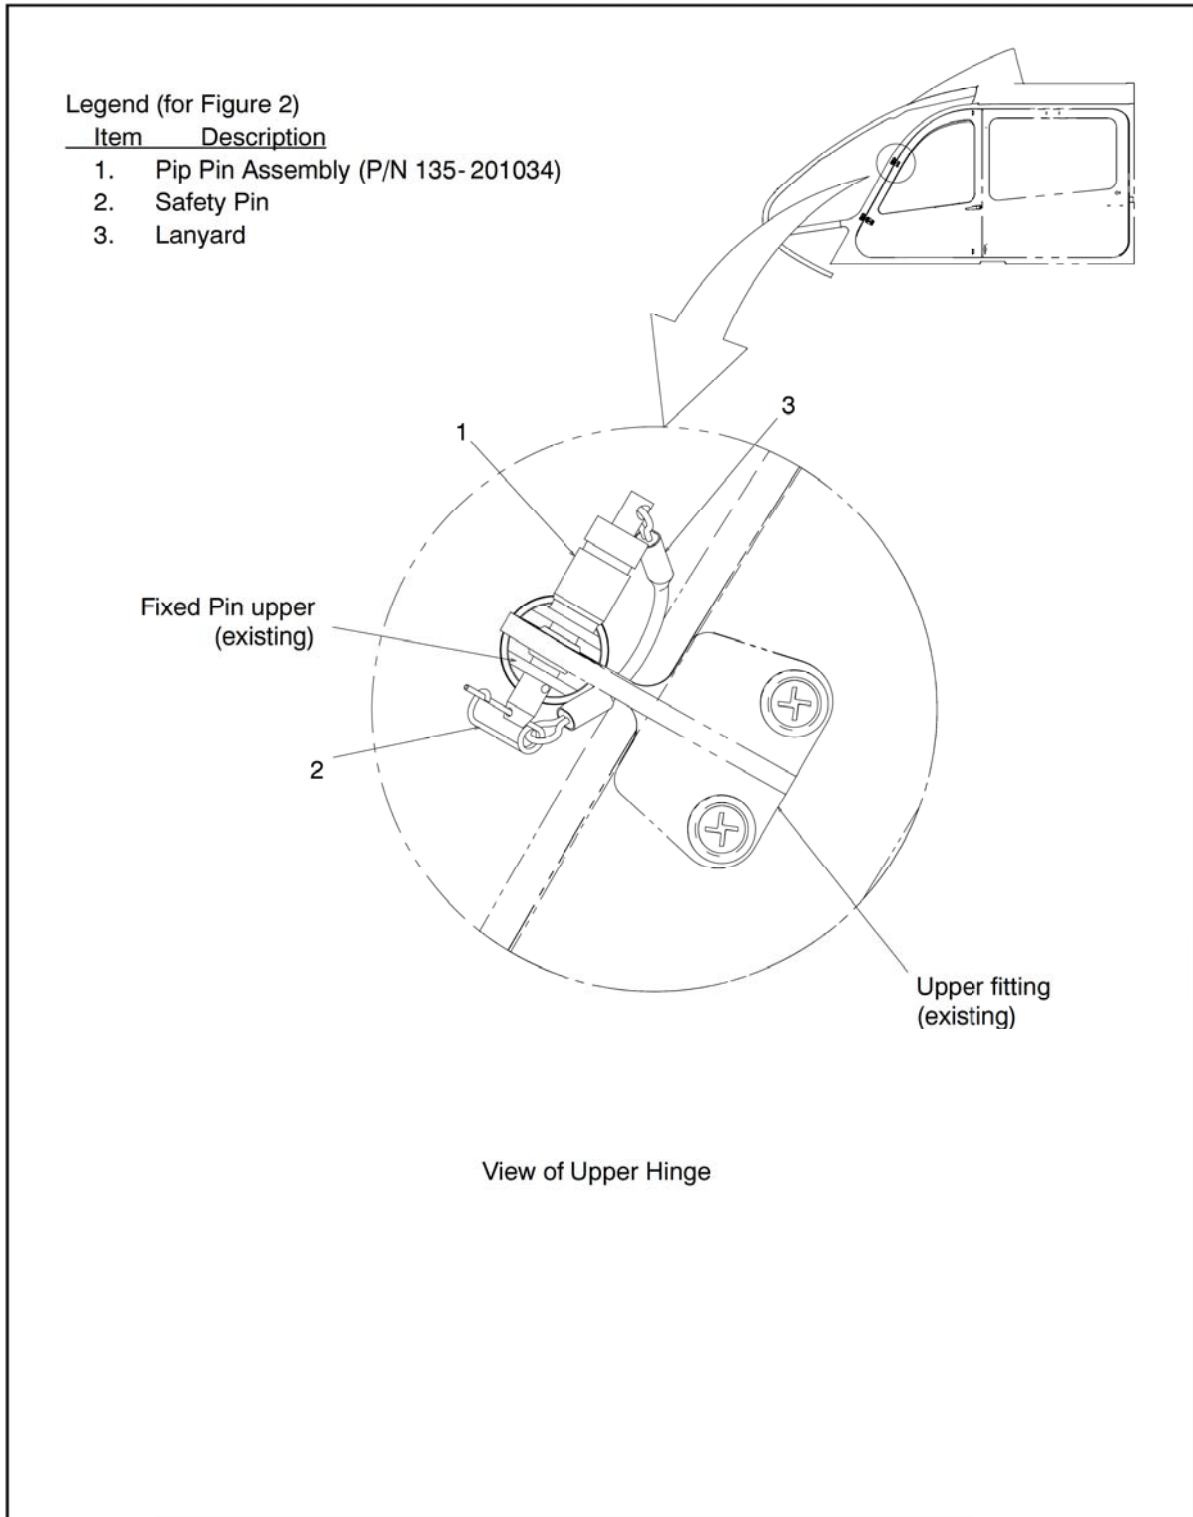

Figure 2 Detail of Upper Hinge
1) UPPER AND LOWER REMOVABLE DOOR PINS (Refer to Figures 2 & 3)
- b) Remove safety pins (2) from the bottom of the pip pin assemblies (1, 2 places). Depress top of each pip pin assembly (1) and remove.
1) UPPER AND LOWER REMOVABLE DOOR PINS (Refer to Figures 2, 3 and 4)
- a) Position door with spacer clip (4) attached over the lower door fitting hole.